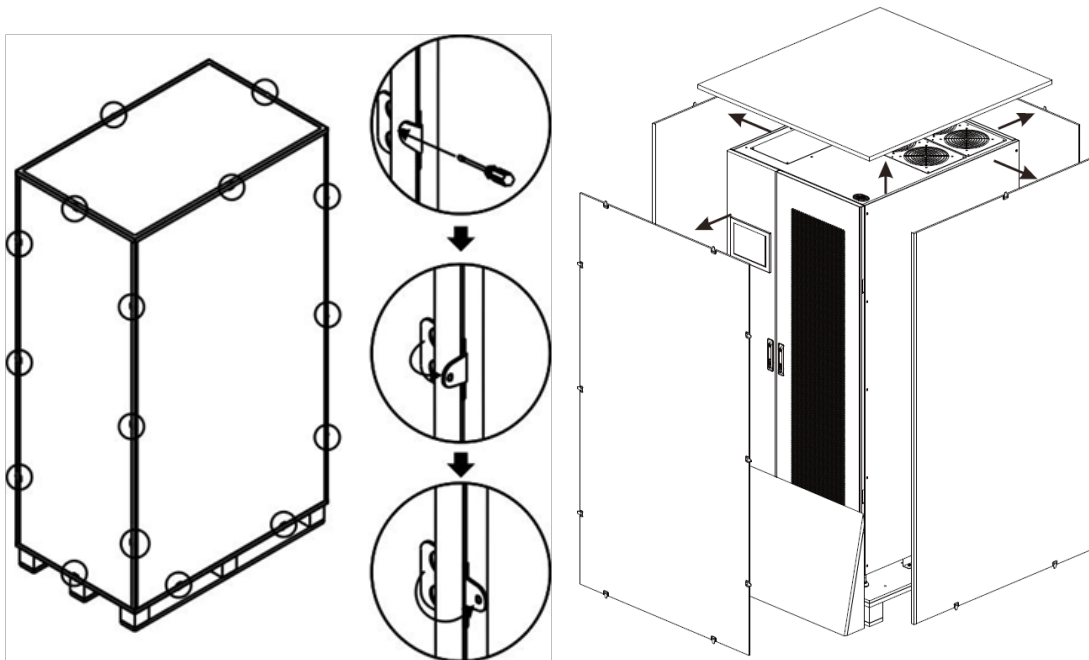

Figure 2-2
2. Please remove wooden case and foam according to order figure 2-2.